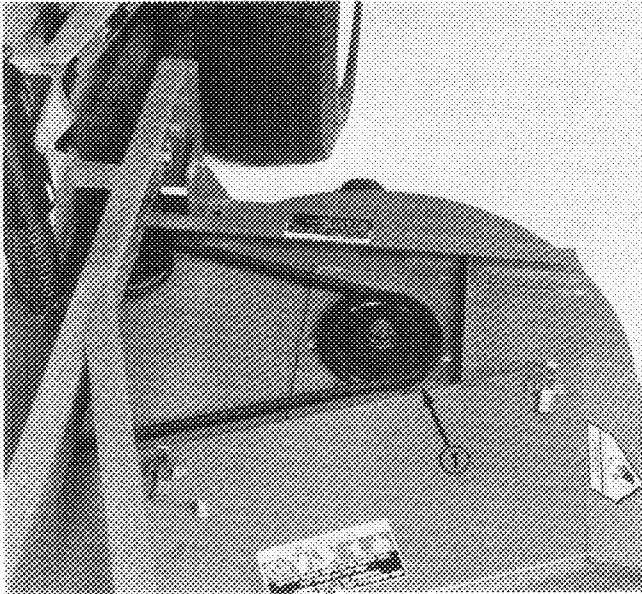

Figure 40
5. Remove nut and flatwasher retaining pulley (Fig. 40) on spindle shaft. Pull pulley off shaft.